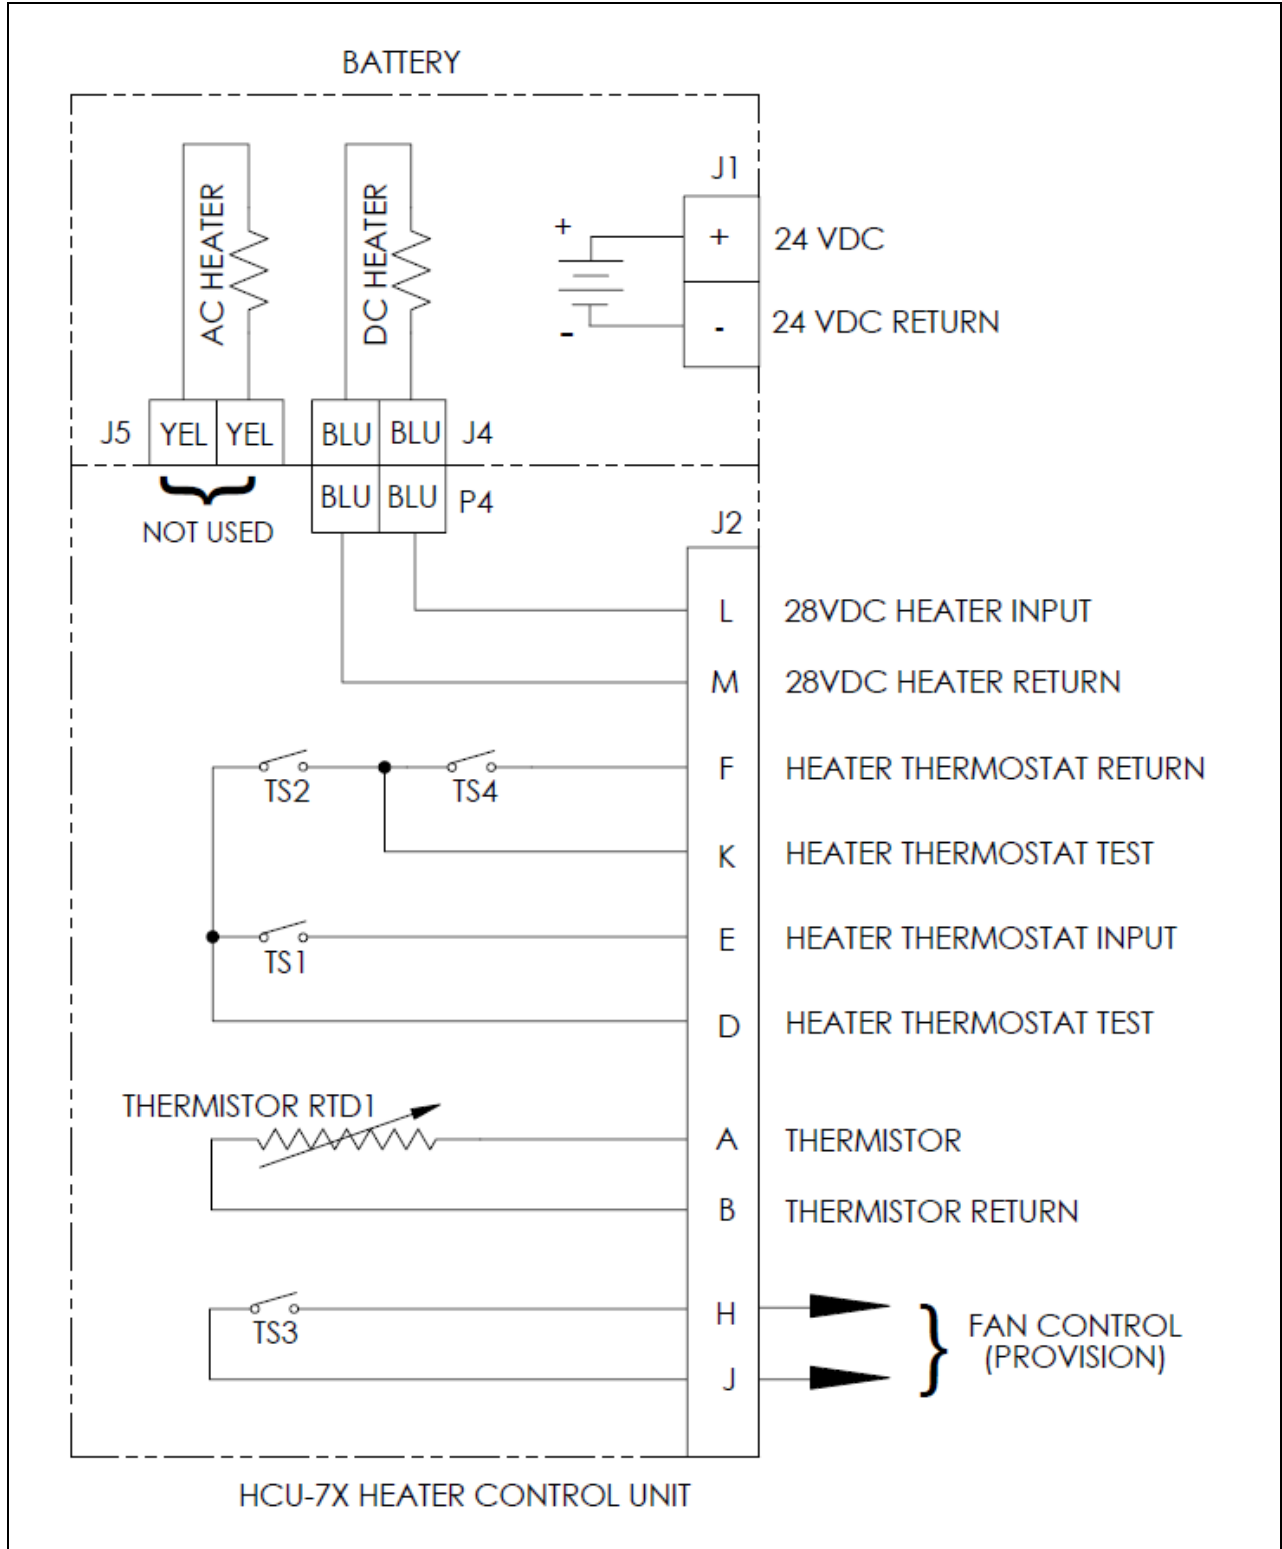

Figure 1. Schematic Diagram for HCU-7X
- b. Refer to Figure 1 for electrical schematic of HCU, Table 1 for a list of test equipment, and Table 2 for the thermistor resistance versus temperature.